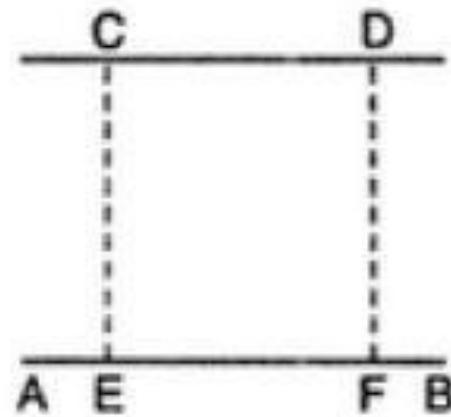

Figure 15
i) **First method** [Figure 15]: Through C, drop a perpendicular CE to the chain line. Measure CE. Select any other point F on line and erect a perpendicular FD. Make $FD = EC$. Join C and D.